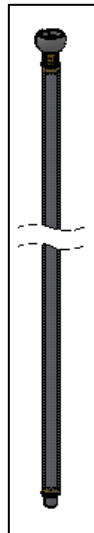

FIG.3 - STEM SUBASSEMBLY
2. STEM SUBASSEMBLY (Pre-assembled as shown in FIG. 3)